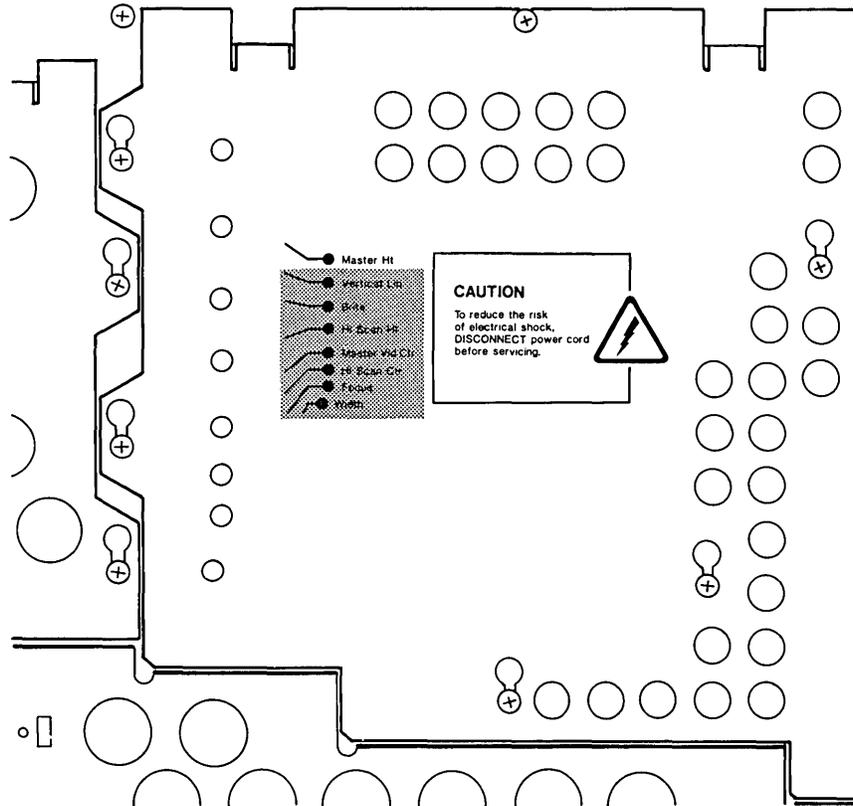

Figure 7-5. VDU Assembly Access Plate - MASTER HEIGHT Control.
Step 8 - Using the label on the VDU assembly access plate as a guide (see Figure 7-5), locate and adjust the MASTER HEIGHT control until the top and bottom of the screen display are within minimum specifications. Use the plastic screen template provided with this manual to determine proper screen display specifications.